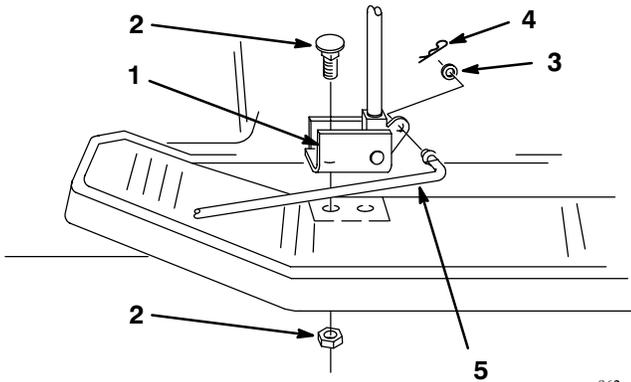

Figure 8
3. Mount the lift handle assembly on top of the left footrest with carriage bolts (5/16 x 1-3/4 in.) and locknuts (Fig. 8). Tighten all lift handle and support bracket mounting hardware securely.